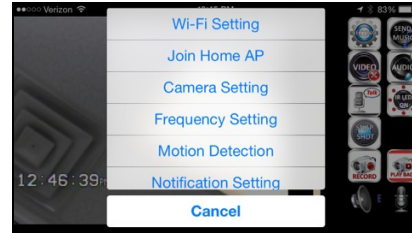
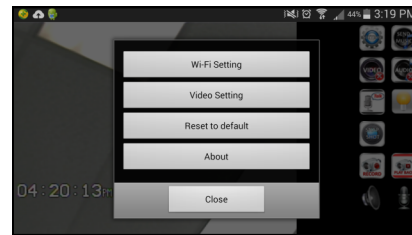

Figure 7
Figure 8
9. On the Mi-Cam app, open settings (the gear icon) and select Camera/Video Setting. (iOS = Figure 7; Android = Figure 8.)